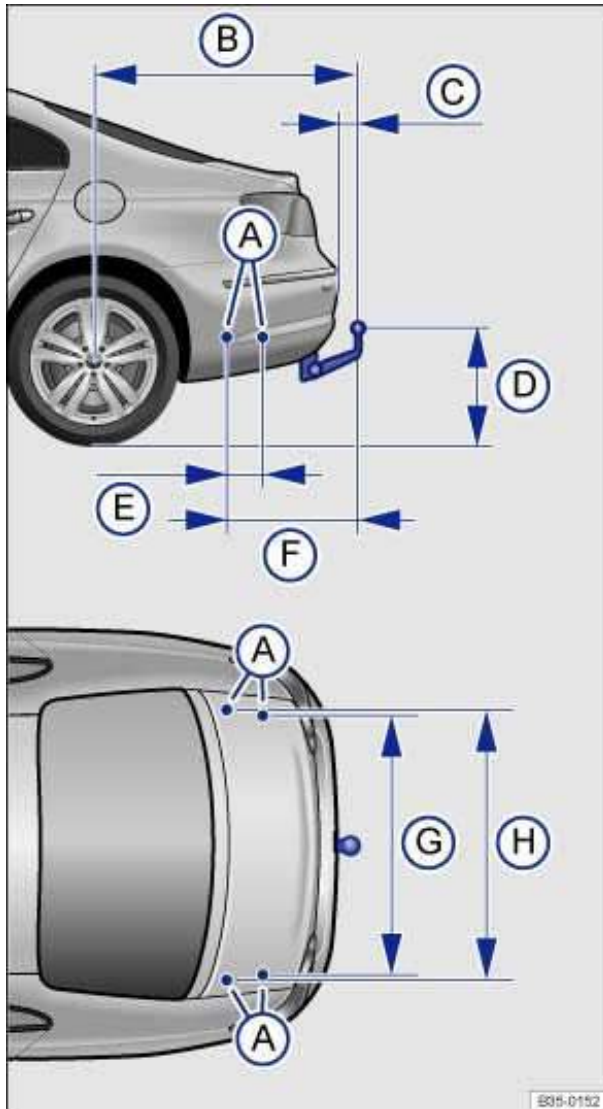

Fig. 96 Dimensions and attachment points for retrofitting a trailer hitch.
When retrofitting a trailer hitch, the specified distance dimensions must be strictly adhered to. Under no circumstances may the distance from the center of the hitch ball to the surface of the road ⇒ fig. 96 (D) be less than the specified minimum. This minimum height must be present even when the vehicle is fully loaded and subject to the maximum tongue weight.